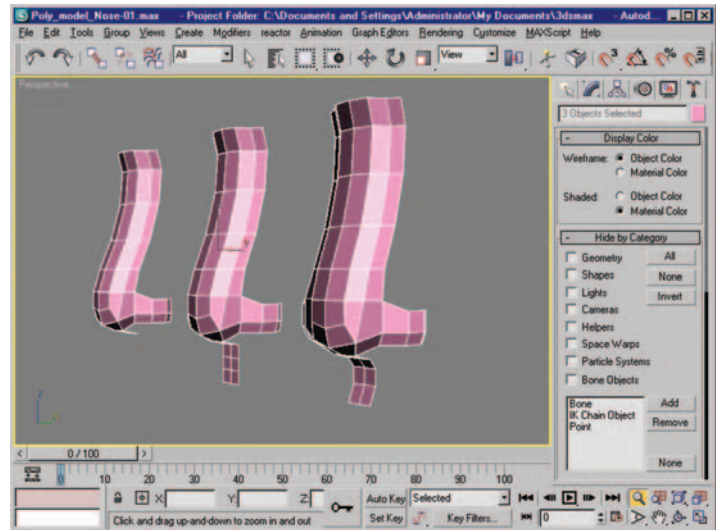

Figure 3.18 Base mesh, newly created polygons (shift-drag), and new edges repositioned to form a curve.
19. In the front, or perspective, viewport, select the bottom two edges. We are going to create the area that flows from the nose toward the lip area. Shift-drag these edges three times; remember to keep them spaced pretty evenly (Figure 3.18, center mesh).
20. The new polygons are straight in a row in the side view, which wouldn't produce a natural result when subdivided, so in your left or right viewport, move the edges one at a time to create the profile or curve to the indent found between your nose and lip. Figure 3.18 shows the progression of the mesh.